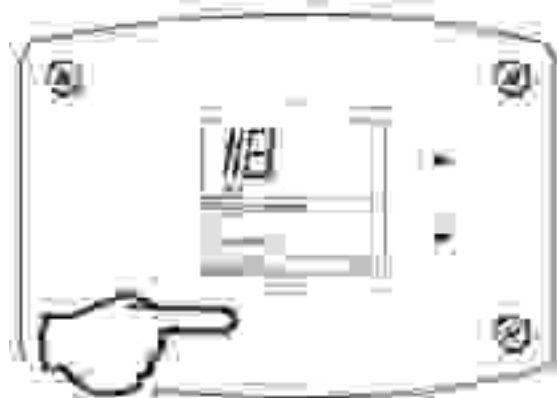

Fig. 53
3. For water heaters using two temperature sensors, pressing the 'Select' button again displays the Lower Sensor temperature reading. 'Lower Sensor' will be displayed in the lower left side of the status window of the water heater display (Fig. 53).